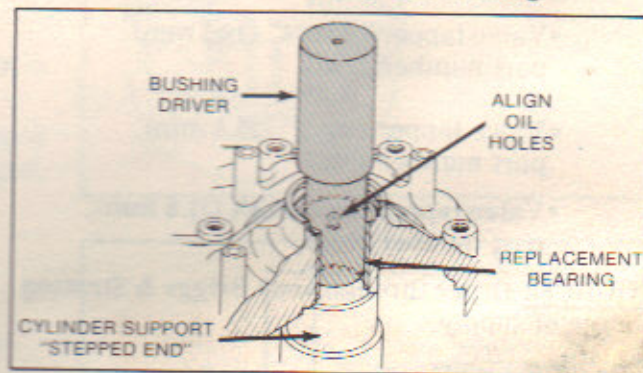

Figure 3 — Driving In Bearing
2. Place replacement DU™ bearing in cylinder bearing hole, aligning oil holes, figure 3.